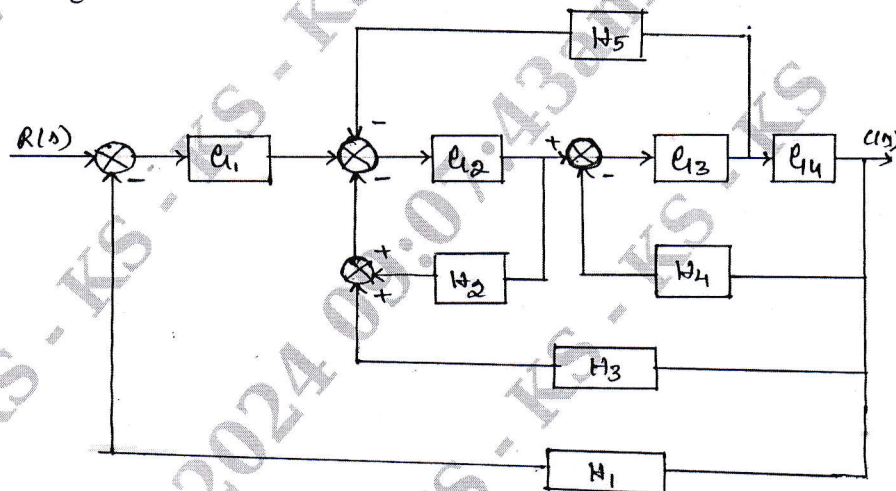

Fig.Q6(b)
b. Construct a S.F.G. for a block diagram shown in Fig.Q6(b) and obtain a transfer function using Mason's gain formula.